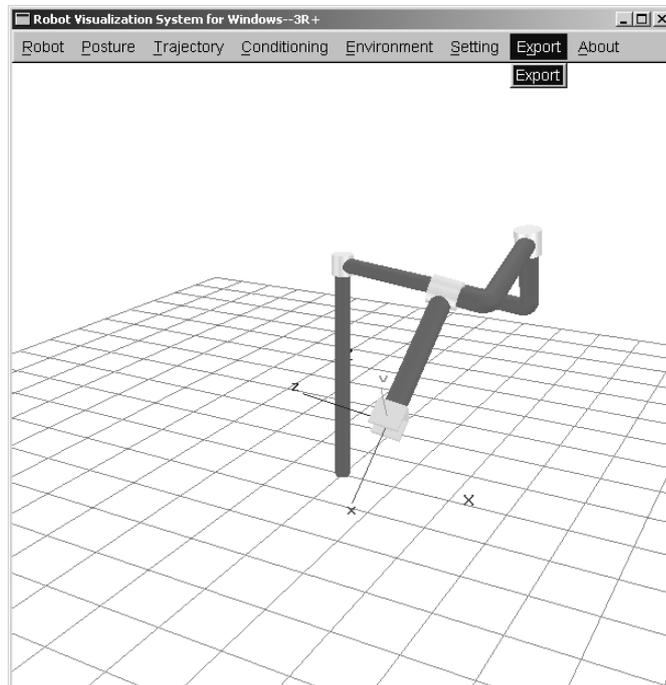
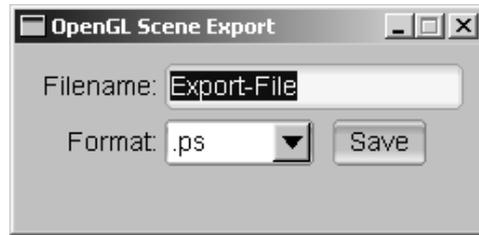

Figure 28: Menu: Export
Figure 29: The Export dialog
1. Select **Export > Export** (Fig. 28). The **Export** dialog will popup on the screen (Fig. 29).